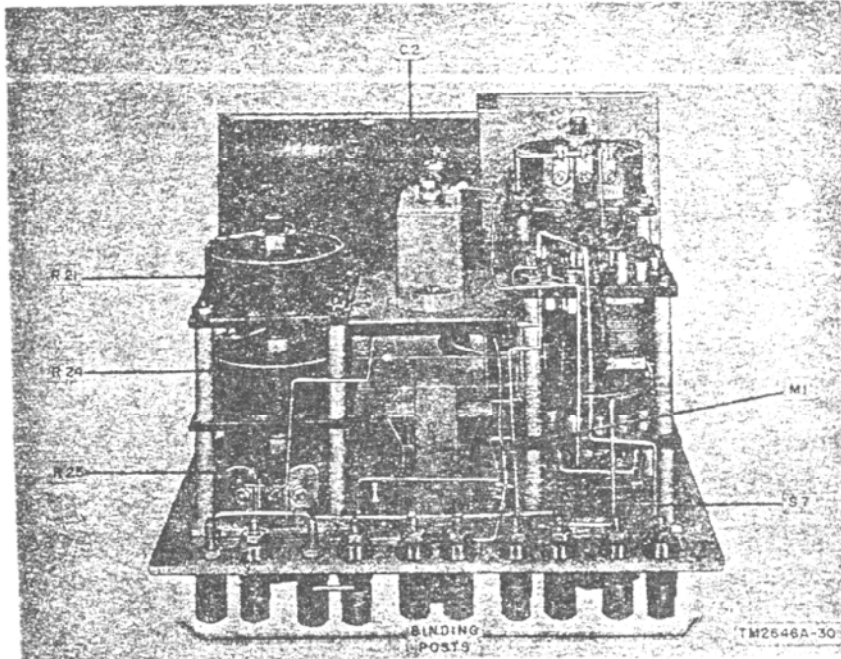

Figure 30. Capacitance-Inductance-Resistance Test Set AN/URM-90, top view of chassis, location of parts.
**Warning:** Discharge capacitor C2 (fig. 30) by shorting the capacitor terminals before making any repairs to the set.
(fig. 30)
- (3) Carefully slide the galvanometer out of the front panel.
- (4) Unscrew the flat head machine screws that were hidden by the galvanometer movement.
- (5) Remove the magnet retaining bar from the chassis (fig. 30).
- (6) Remove the permanent magnet from the chassis.
- (7) Unsolder and remove the leads connected to the galvanometer and remove the insulating terminal board from the rear of the panel. Refer to paragraph 67f before disconnecting any leads.